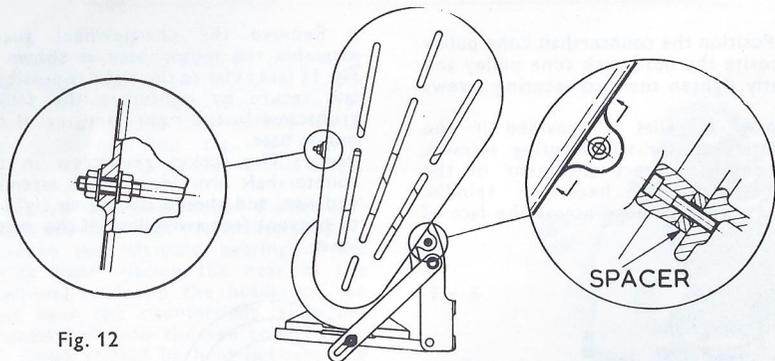

Fig. 12
i Attach the motor base link (with flanges innermost), and secure the motor base in a horizontal position. Place the motor and lightly tighten the bolts. If the motor is not required for reversing duty, it is recommended that the correct rotation be set before mounting. Rotation should be clockwise when viewed from the pulley end. Instructions for reversing rotation are usually contained in the motor terminal box. Assemble the motor pulley on to the motor shaft. Screw in the countershaft belt guard support stud (10), until tight, and attach the countershaft belt guard. See Fig. 12.